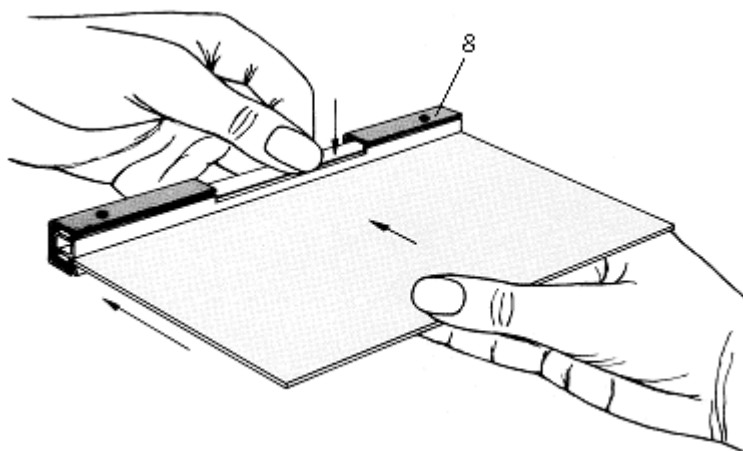

Fig.3: Plate handling
- Position it in the two guides (7) of the instrument base with the straight vertical side facing the user
- Mount the TLC plate (application position downward) in the clamping device (8) with the stationary phase facing forward. See figure 3. Make sure not to touch the stationary phase.